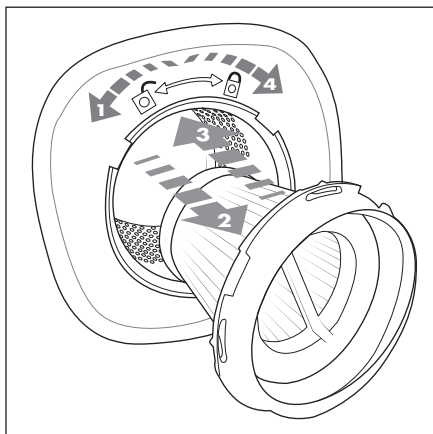

Fig. 5
- 3) Rotate the EPA filter **6** to the left towards the ☐ symbol (open) until it comes free with a click and pull it out of the coarse filter **7** (Fig. 5).
- 6) Re-insert the coarse filter **7** first and then the EPA filter **6**. When inserting the EPA filter **6**, ensure that the three recesses of the EPA filter **6** align with the three retaining tabs of the coarse filter **7**. Rotate the EPA filter **6** to the right towards the ☐ symbol (closed) until it clicks into place (Fig. 5).